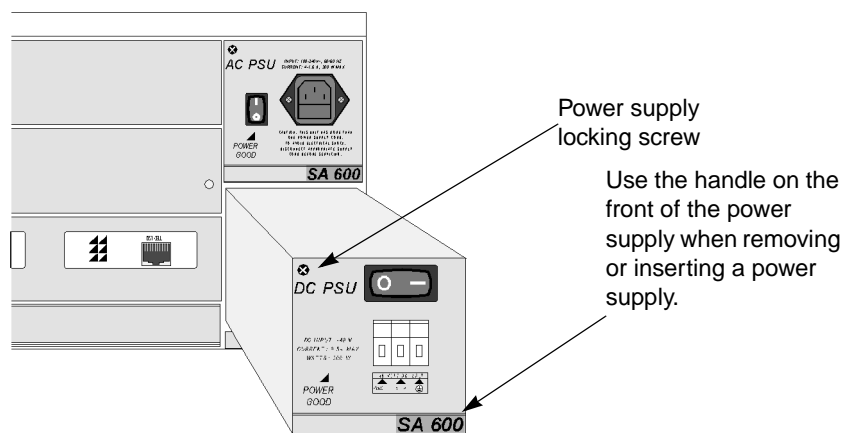

Figure 4-12. Removing or Installing an SA 600 Power Supply
4. Gently but firmly pull the handle on the front of the power supply to disengage it from the SA 600 and remove it from the chassis (see Figure 4-12).